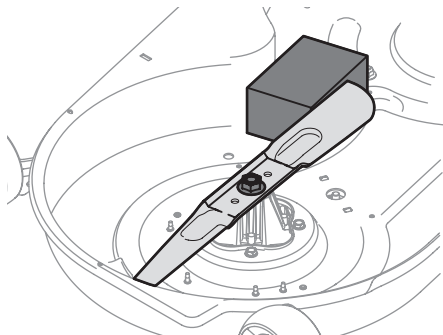

Figure 47
- Place a block of wood between the deck housing baffle and the cutting blade to act as a stabilizer. See Figure 47.
3. Place a block of wood between the deck housing baffle and the cutting blade to act as a stabilizer. See Figure 47.